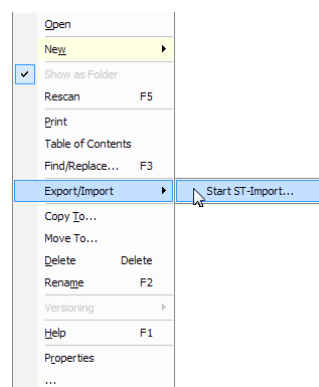

Figure 161: Importing KNX types in logi.CAD.
6. Select **Export/Import** → **Start ST-Import** from the context menu of the newly created library, as shown in Figure 161.